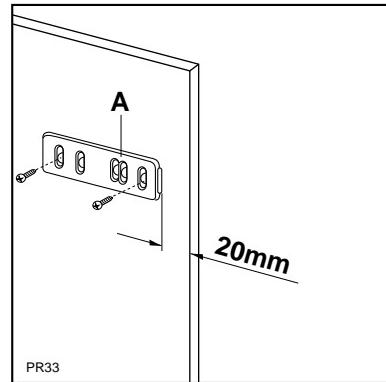

Fig. 7
Position the runners (A) at the top and bottom of the inside of the kitchen unit as shown in Fig. 7 and mark the position of the external holes. After preparing the holes, screw the runners to the kitchen unit door using 3.5x16 mm screws.